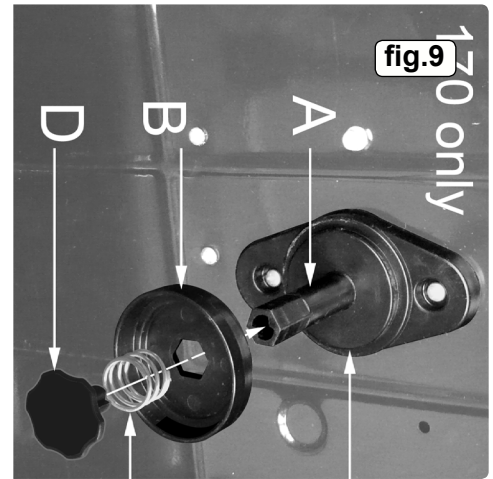
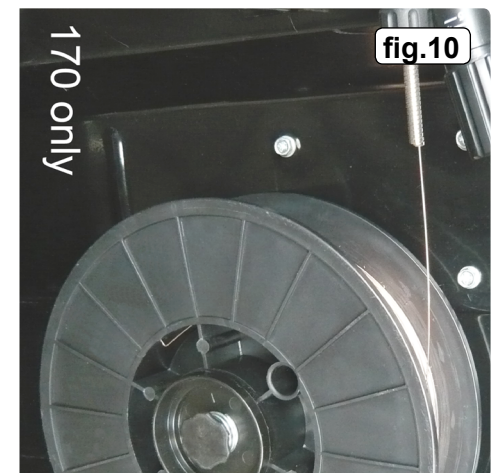

fig.9
fig.10
**3.8.1** Remove the retaining knob (D) from the end of the spindle (A) by turning the knob 90° anticlockwise and pulling it outwards (see fig.9). Remove the spring (C) and the retaining disc (B) from the end of the spindle also. Slide the reel of wire over the spindle and hold it against the back plate so that the hole in the reel rests on the flange (E). Ensure that the wire is coming off the top of the reel in the direction of the wire drive unit as shown in fig.10.